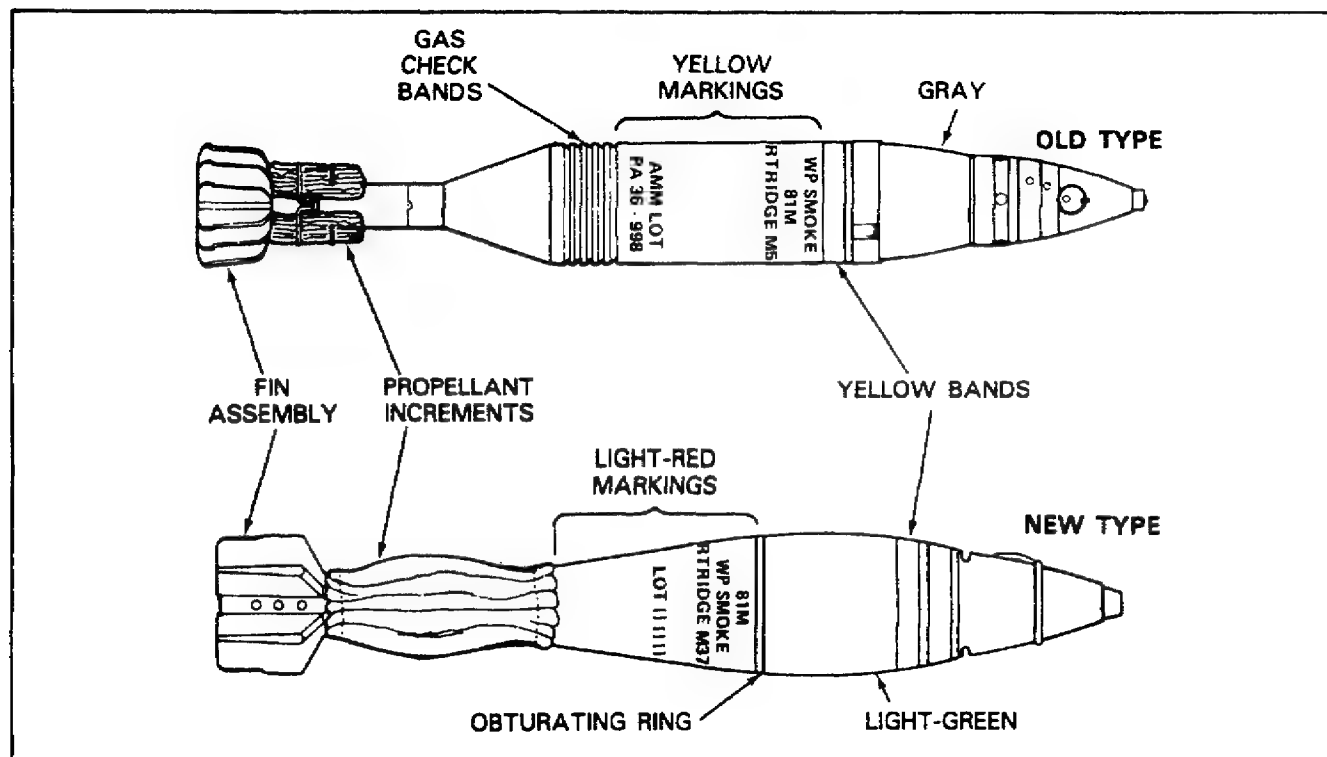
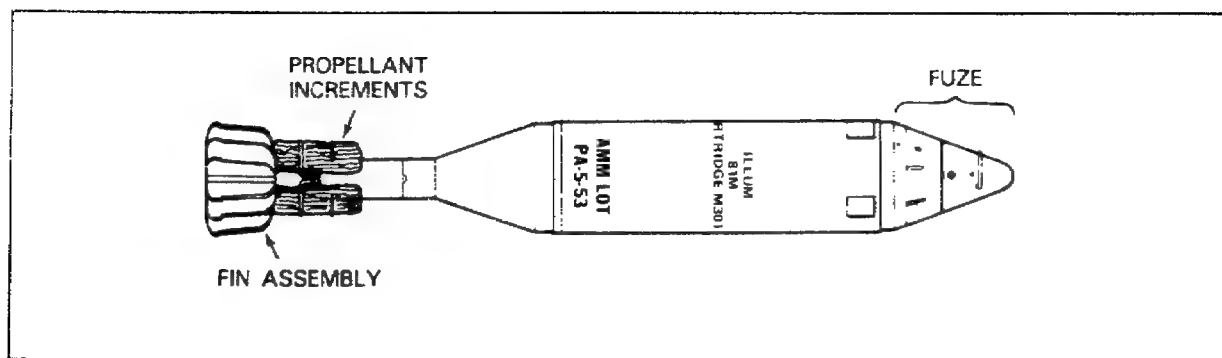

Figure 28. 81mm Smoke-White Phosphorous Mortar Cartridges.
Figure 29. 81mm Illuminating Mortar Cartridge.
**81mm Smoke-White Phosphorous Mortar Ammunition.** The 81mm smoke-white phosphorous mortar cartridge is found in two configurations, as shown in Figure 28. The cartridge at the top is no longer manufactured but may still be found in storage. It is an elongated cylindrical round with a gas check band between the fin assembly and the projectile body. This type is often still painted in the old color code, gray with yellow markings and a yellow band. The bottom cartridge in Figure 28 is the latest model of the 81mm smoke-white phosphorous mortar cartridge. It has an improved, streamlined shape and an obturating ring. There are other models that have no obturating ring, have fewer propellant increments, or have a fin shroud. All of the new type are painted in the new color code, which is light-green with light-red markings and a yellow band.
**81mm Illuminating Mortar Ammunition.** The 81mm illuminating mortar cartridge is used for night illumination of a desired area. See Figure 29. This cartridge is sometimes confused with the old type 81mm smoke-white phosphorous cartridge (see Figure 28) because it has the same type of fin assembly and propellant